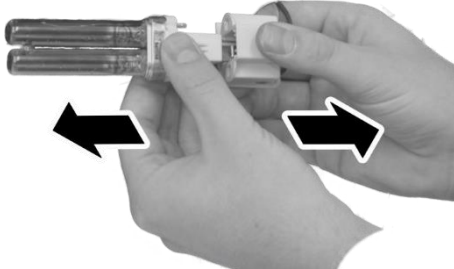

Fig. 35: Unplugging the UV lamp
5. Unplug the old UV lamp out of the socket (Fig. 35).